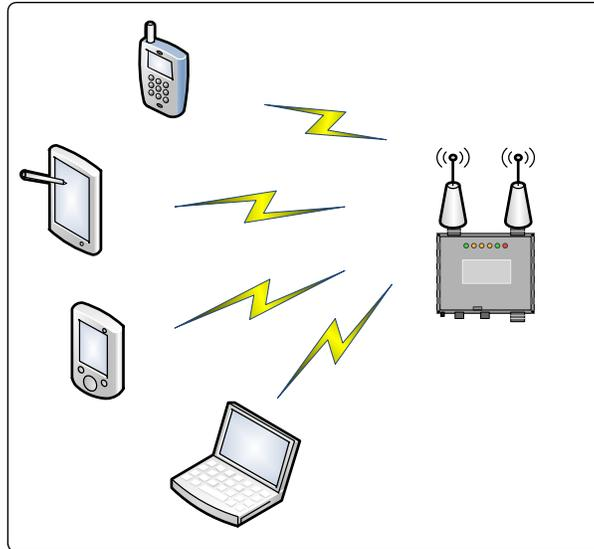

Figure 8: Standalone AP Network
- a) An AP can be used as a standalone AP without any connection to a wired network. In this configuration, the AP simply provides a standalone wireless network for a group of wireless devices (Figure 8).